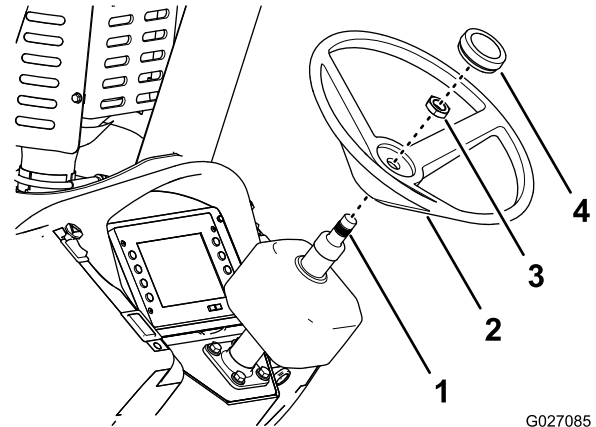

Figure 10
2. Align the spokes of the steering wheel (Figure 10).
3. Align the splines of the steering wheel to the splines of the steering-wheel shaft of the tilt steering column (Figure 10).
4. Seat the steering wheel onto the tilt steering column (Figure 10).
5. Secure the wheel to the column (Figure 10) with the nut (13/16 inch) and torque the nut to 41 to 49 N-m (30 to 36 ft-lb).